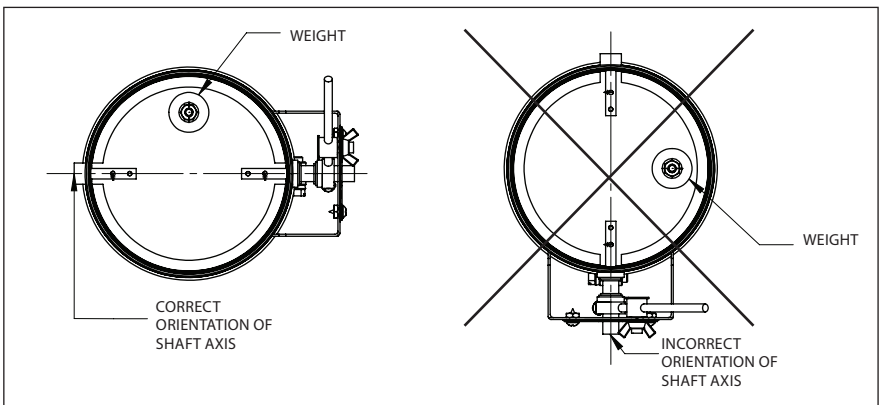
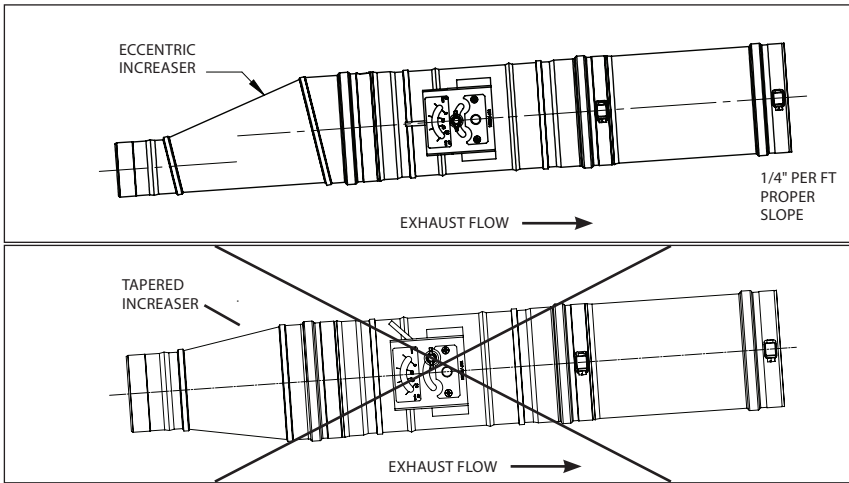
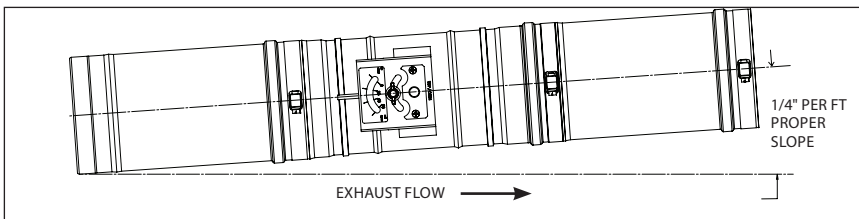

Figure 1
Figure 2
Figure 3
- If the Damper is going to be installed horizontally, make sure the Damper Axis is horizontal (**Fig.1**). Make sure the venting is pitched towards the boiler by a value of $\frac{1}{4}$ " drop for every foot of vent length (**Fig.2** and
Fig.3) for proper condensate management. The weight on the damper is a fail safe to make certain that the damper will be open in the event of failure. Ensure that the weight is at the top of the damper plate when closed in the Horizontal (**Fig.1**).
Horizontal Installation (**Fig.1, Fig.2, Fig.3**)
- To prevent the build up of condensation in horizontal installations, it is required to use an Eccentric Increaser rather than Tapered Increasers at the male connection of the damper (**Fig.2**).